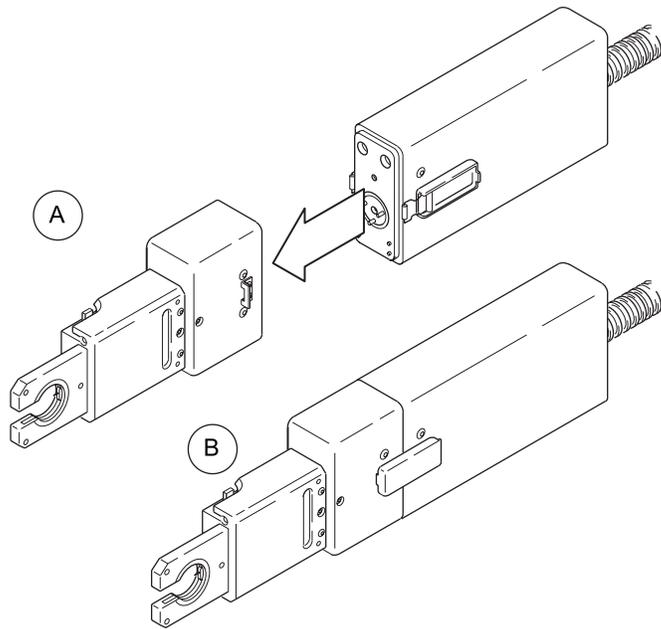

Figure 6 Connecting Weld Head and Motor Module
4. Push the micro weld head onto the motor module until it is firmly seated, then lock the assembly together with the two sides latches. See Figure 6(A) and Figure 6(B).